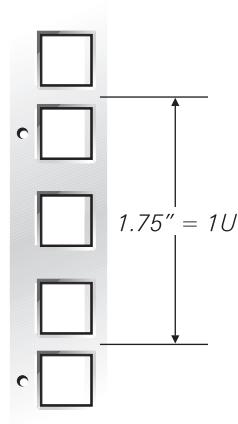

Figure 2. Rack U
2. Identify and mark the location of the PDU in the lowest unit (U) location in which it can be installed. Figure 2 shows a rack U.